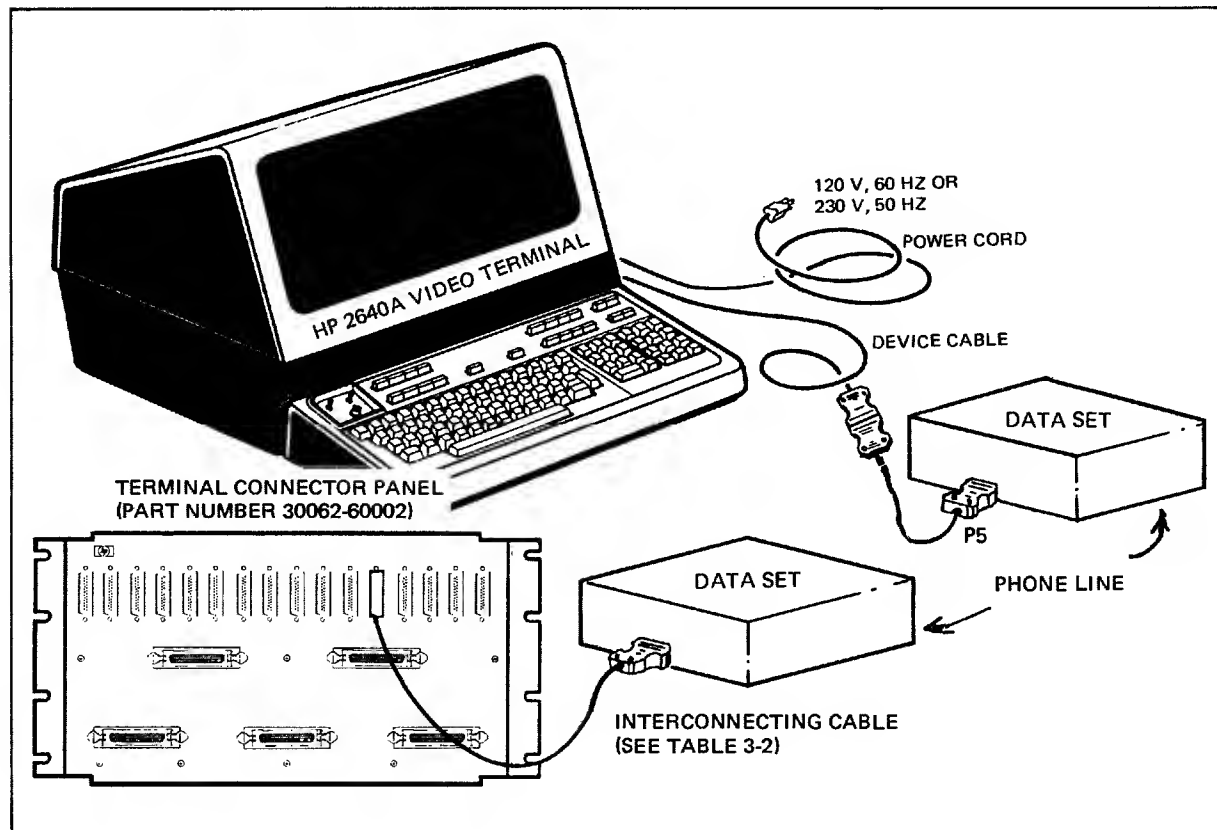

Figure 3-9. An HP 2640A Remote User Terminal
2. For remote connections, refer to Bell Telephone Specification RS-232B for maximum wire length between the Terminal and the Data Modem. See figure 3-9.